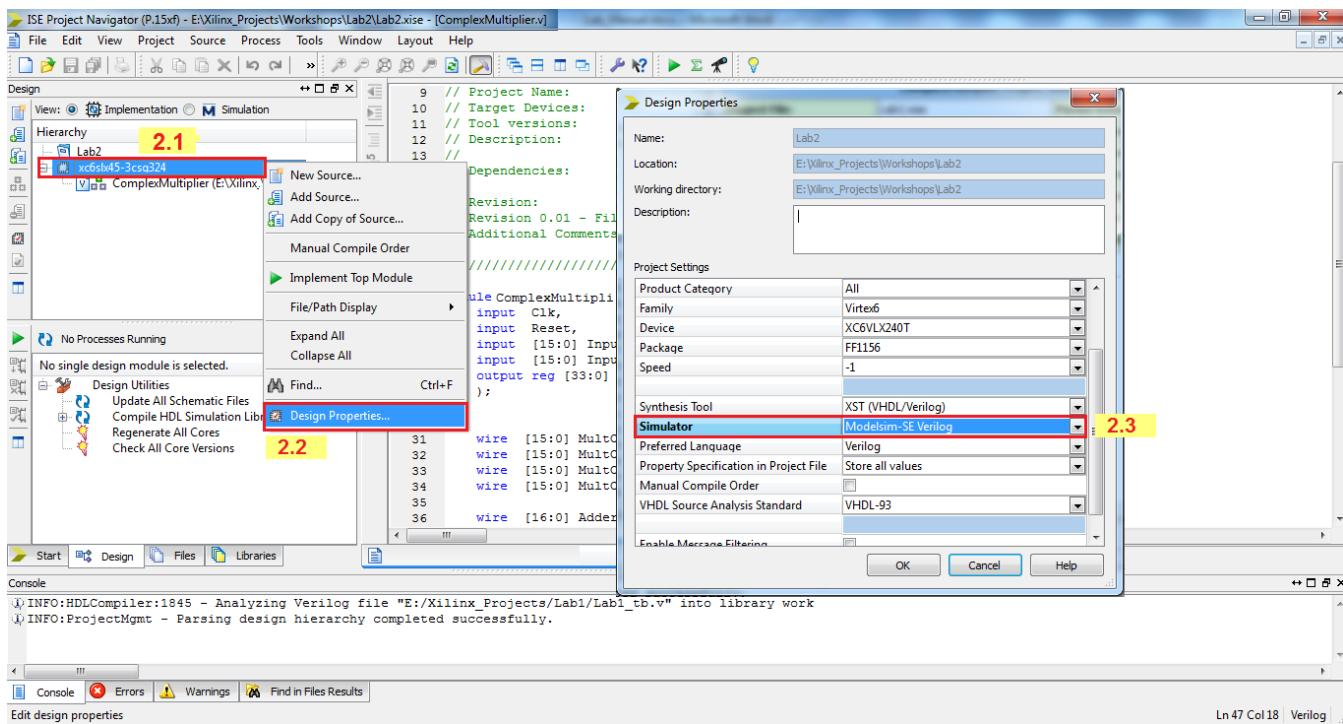

Figure 7.
2. Select ModelSim as the Simulator (Figure 7)